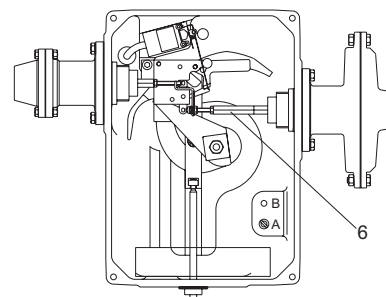

Figure 3. Mechanism Box for two BMS
BMS2D The safety manometric box BMS2D consists of a BMS1 and a spacer (code: 144 673 (key 6, fig. 3))